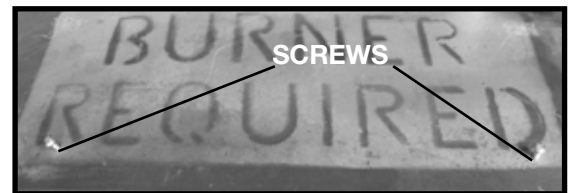

Figure 4: Screws in floor.
2. Remove the 2 screws from the firebox bottom. (Figure 4)